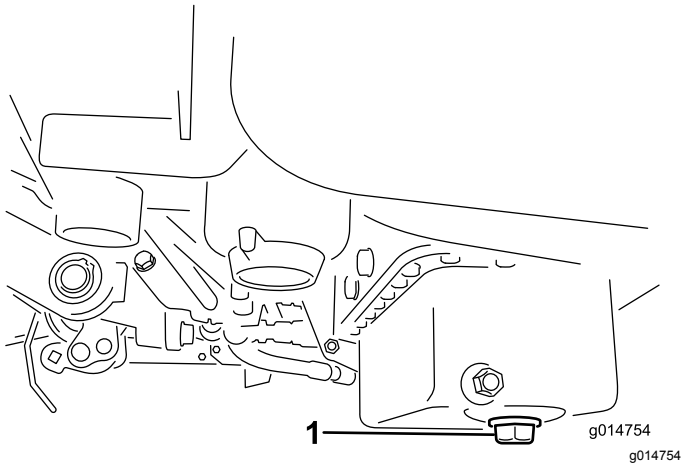

Figure 46
1. Remove the drain plug and let oil flow into a drain pan. When the oil stops, install the drain plug (Figure 46).